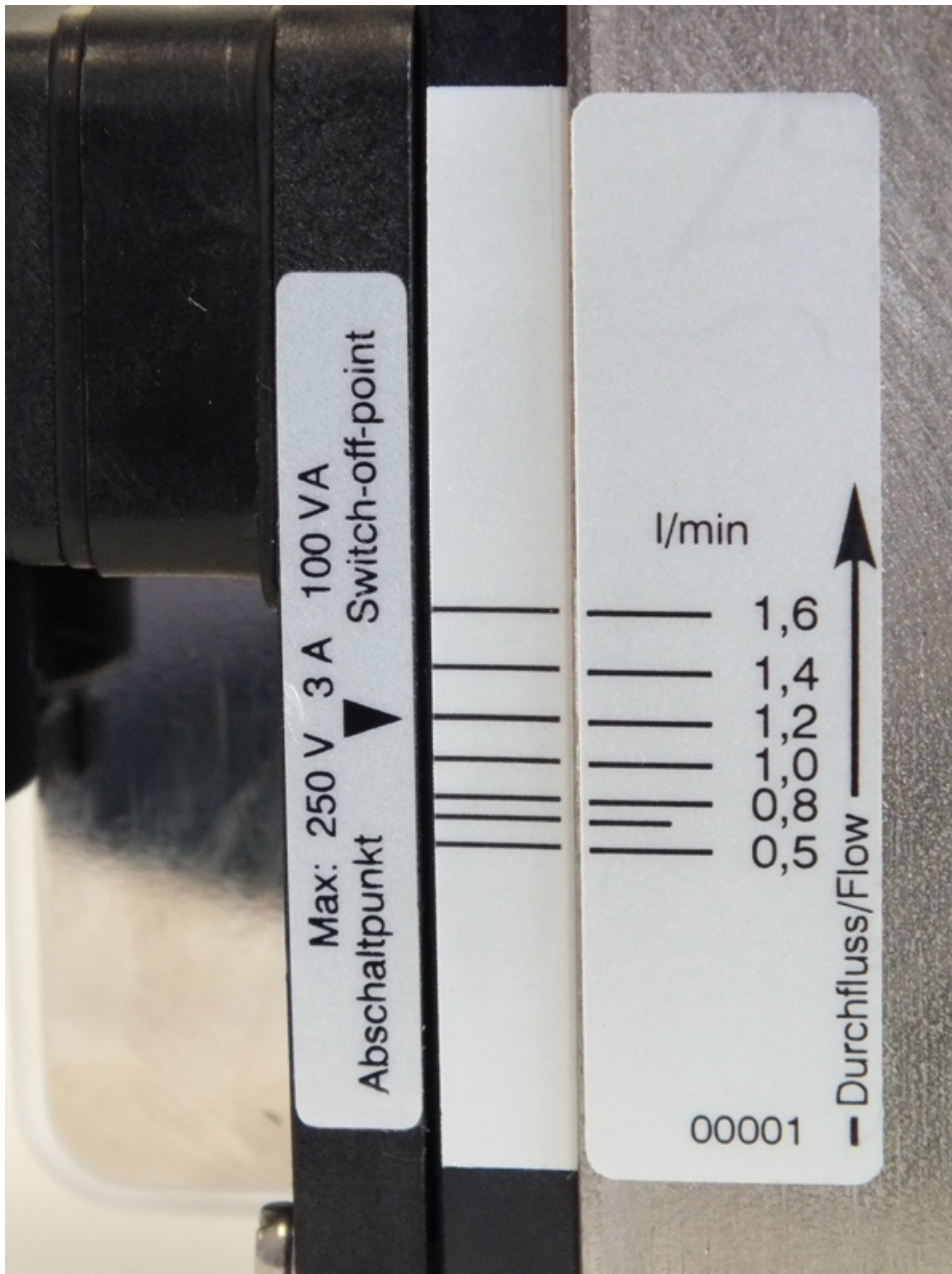

Fig. 38: Reading-off the flow value
1. Make sure that the setting arrow, the scale mark on the positioning aid label (adhesive label on the guide rail) and the appropriate scale mark on the device body are in alignment. (Fig. 38).